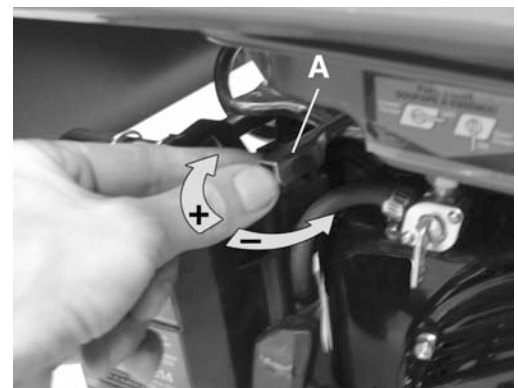

Figure 10
The water pressure is regulated by the throttle lever (A) Fig.10. Moving the throttle lever towards the left will increase the engine speed and thus increasing the water pressure. Moving the throttle lever towards the right will decrease the engine speed and thus decreasing the water pressure.
- 3) Inspect the detergent injector filter (B), make sure it is not clogged. Then place it all the way to the bottom of the container. The detergent will automatically mix with the water.
- 4) If the throttle lever (A) Fig.10 is not in the fast position, the injection of the detergent may be decreased or stop completely, in this case, move the throttle lever towards the left to increase engine speed and pressure.